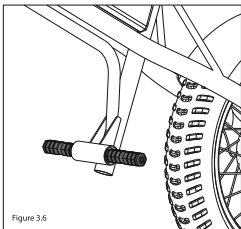

Figure 3.6
6. Step 6: Because the tooth patterns on the left and right of the pedal are different, the installation method is different. L on the left / R on the right. Use R to lock the crank in the clockwise direction, and use L to lock in the counterclockwise direction on one side of the crank (**As: Figure 3.6**).